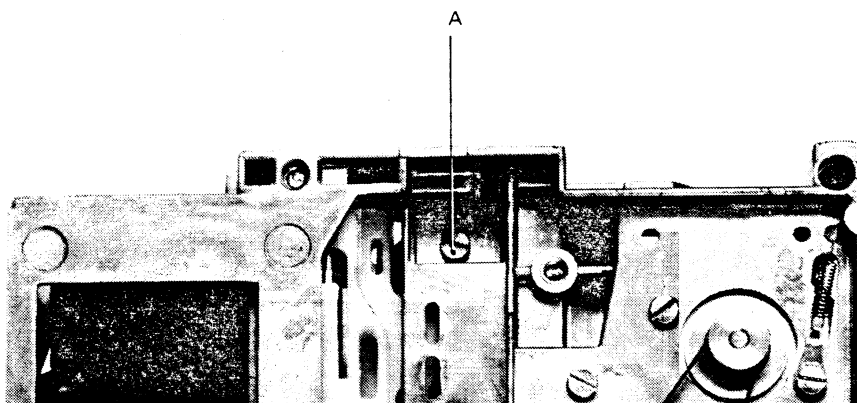
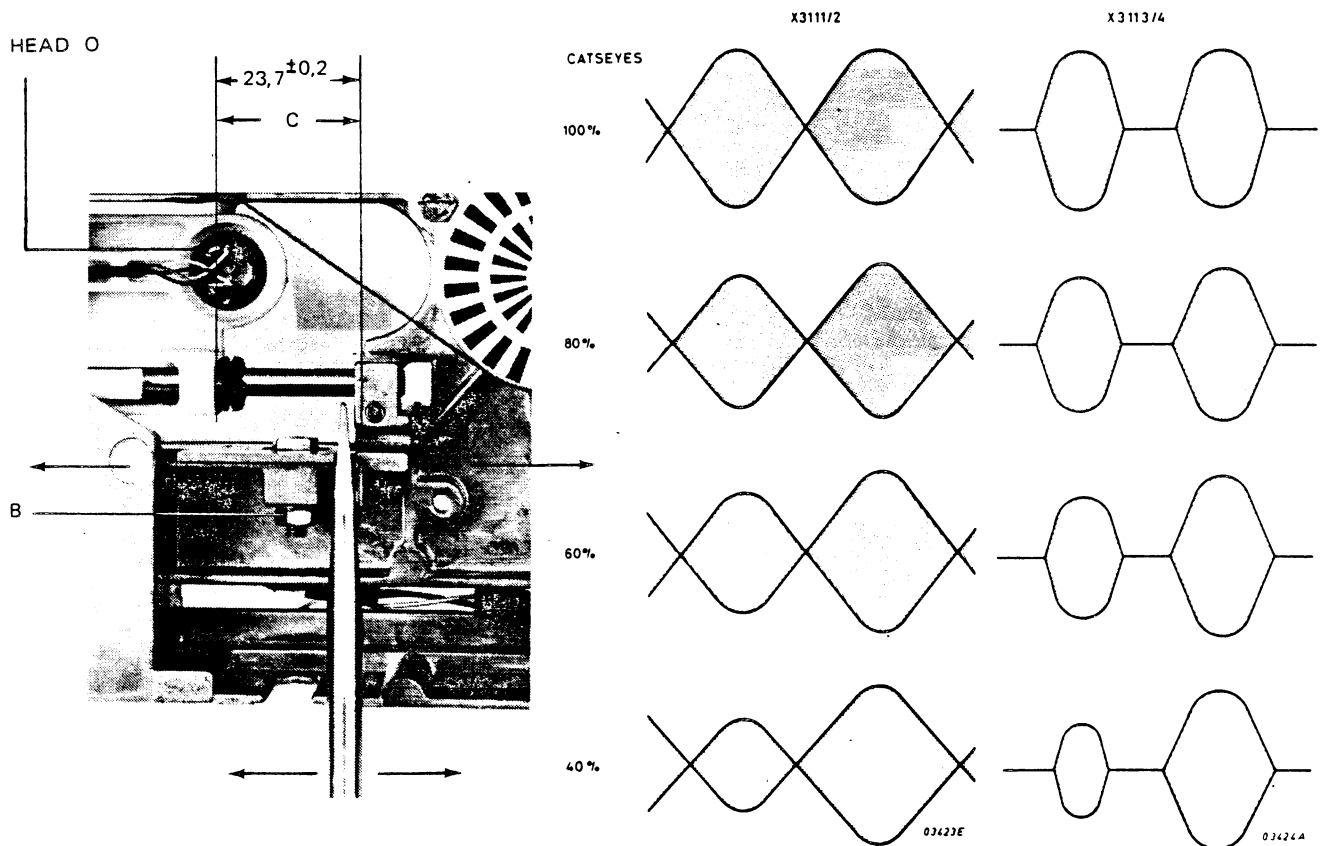

Figure 7.2 TRACK 0 SENSOR ADJUST
Figure 7.3 HEAD ALIGNMENT
7.2.4 HEAD ALIGNMENT (FIGURES 7.2 AND 7.3)
- b) Set track 0 sensor screw ('A', figure 7.2) and stepper motor nut ('B', figure 7.3) to the middle of their respective slots.
- e1,2) Step to tracks 16, 20 and 24 in turn. Note which track gives nearest picture to catseyes of figure 7.3. Step to that track.
- e3,4) Step to tracks 32, 36 and 40 in turn. Note which track gives nearest picture to catseyes of figure 7.3. Step to that track.
- b) Slacken TRACK 00 sensor (A, figure 7.2) and move it forward until voltage level at W23, just switch from a high level to a low level.